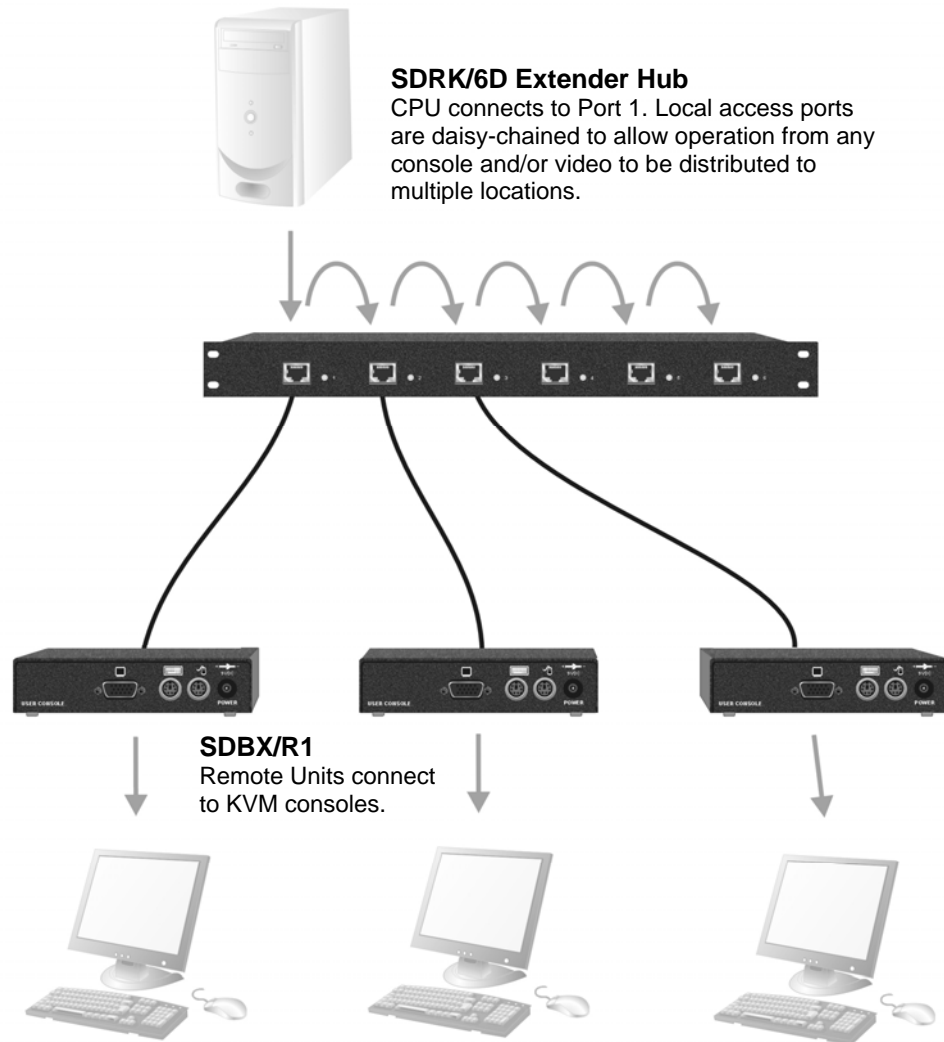

Figure 17 Information distribution system sharing a single PC
- Information distribution system sharing a single PC at up to six remote locations (Figure 17).